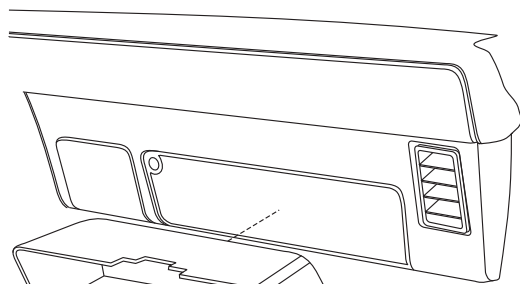
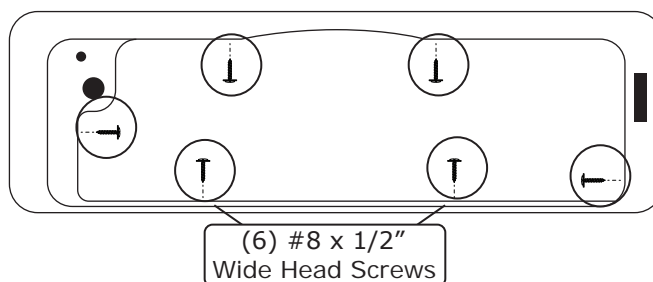

Figure 1
Figure 2
1. Place the glove box into the glove box opening in the dash (See Figure 1, below).
2. Using the glove box as a template, mark and drill (6) 1/16" holes into the dash.
3. Secure the glove box using (6) #8 x 1/2" wide head screws (See Figure 2, below).